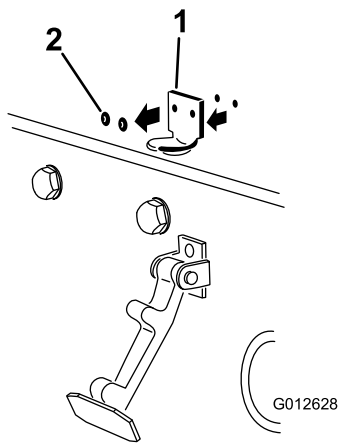

Figure 15
2. Remove the 2 rivets securing the hood-latch bracket to the hood (Figure 15) and remove the hood-latch bracket from the hood.